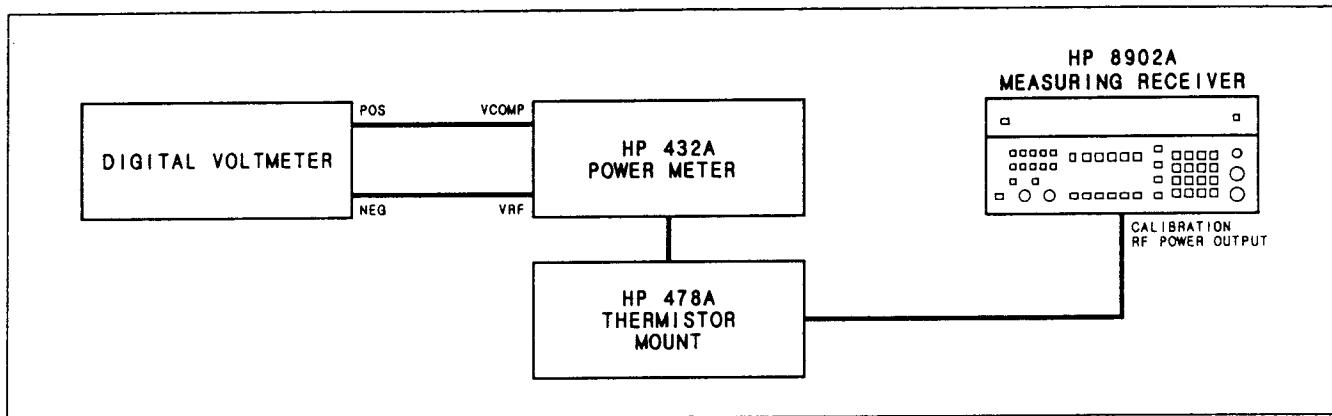

Figure 4-6. Power Reference Performance Test Setup
- Connect the equipment as shown in Figure 4-6. The input of the digital voltmeter should be floating. The positive input of the voltmeter should be connected to the rear-panel VCOMP connector of the HP 432A Power Meter, the negative input to the VRF connector. Switch the equipment on and let it warm up for at least 30 minutes.